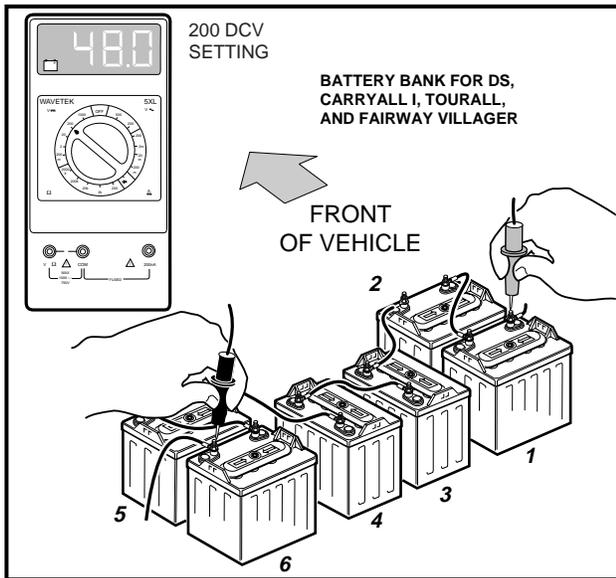

Figure 11-8 Battery Test - Short Frame Vehicle
1. With batteries connected and using a multimeter set to 200 volts DC, place red (+) probe on the positive post of battery No. 1 and the black (-) probe on the negative terminal of battery No. 6. The multimeter should indicate at least 48 volts with the batteries fully charged. If not, check for loose battery connections or a battery installed in reverse polarity. Refer to **Section 13–Batteries**, for further details on battery testing (**Figures 11-8 or 11-9, Page 11-12**).